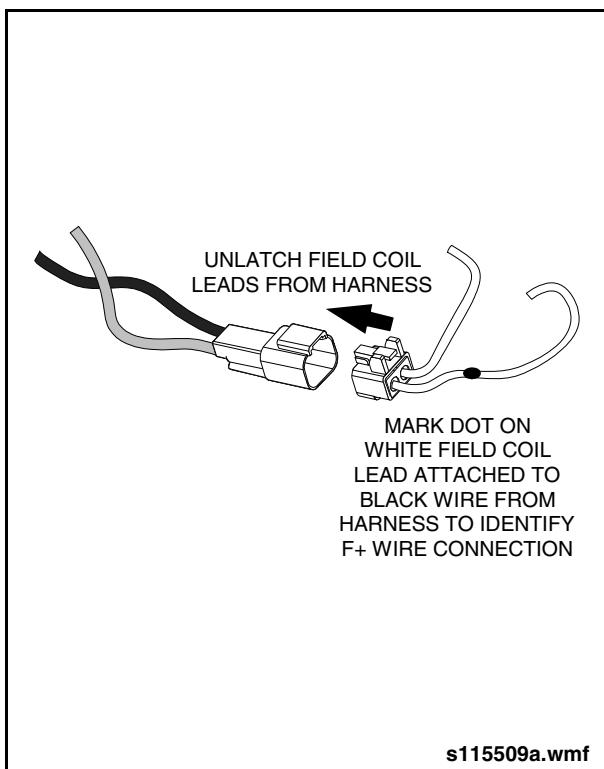

Fig. 9-17: Field Coil Lead Removal
- a. Remove hardware from phase lead terminals P1 through P6. Label the phase leads for reassembly. *See "Fig. 9-17: Field Coil Lead Removal" on page 27.*